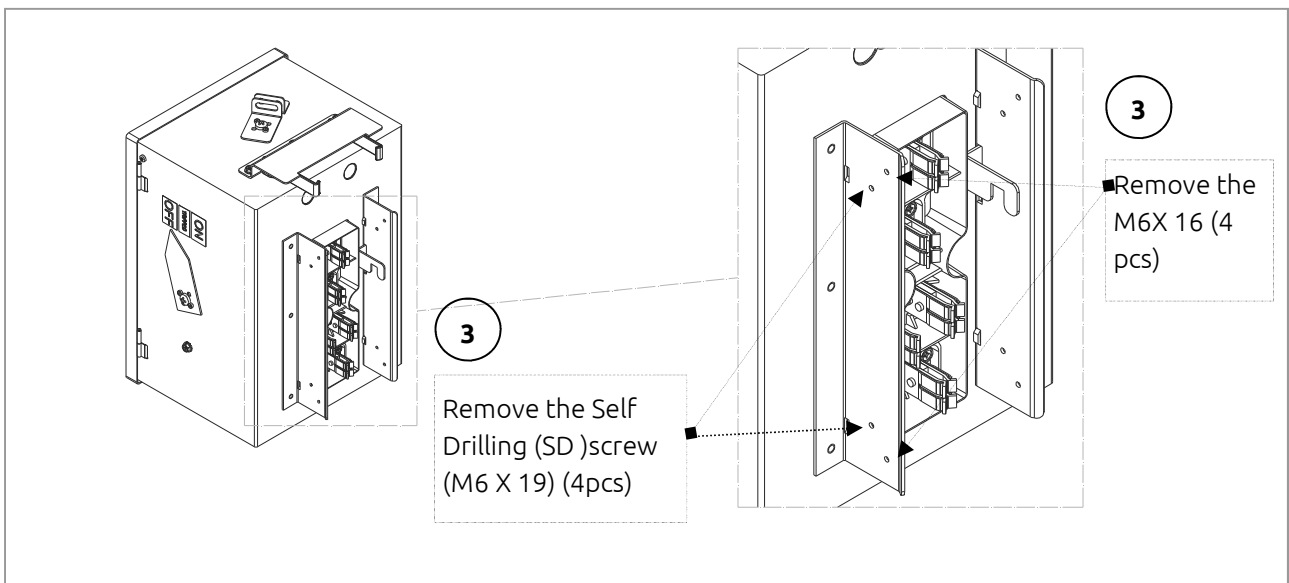

Figure 17.2
3. Remove the self drilling screw (SD) SCREW M6 X19(4 pcs) and M6X 16 screw(4pcs) both side (Figure 17.2)